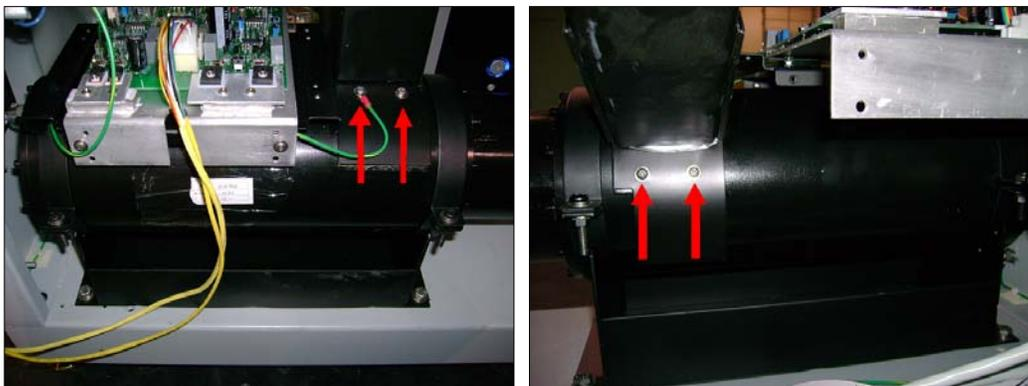

Figure 192: Plate Bolts
9. Once the generator has been removed from the machine, remove the last 4 screws that attach the plate to the generator (Figure 192).
- b. Check the plate from the generator (Figure 192) is properly placed and not blocking the X-rays from exiting.